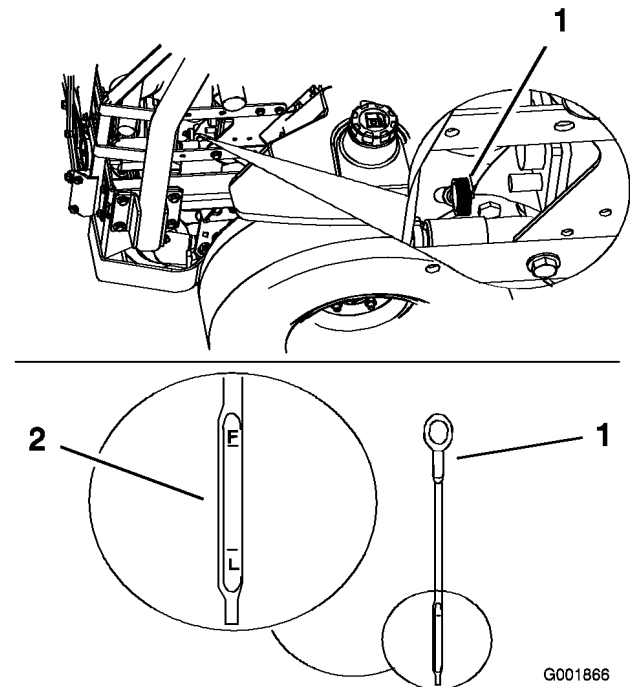

Figure 43
3. Clean around the oil dipstick (Figure 43) so dirt cannot fall into the filler hole and damage the engine.
4. Pull the oil dipstick out and wipe the metal end clean (Figure 43).
5. Slide the oil dipstick fully into the tube. Pull the dipstick out and look at the metal end (Figure 43). If the oil level is low, slowly pour only enough oil into the fill hole to raise the level to the full mark.